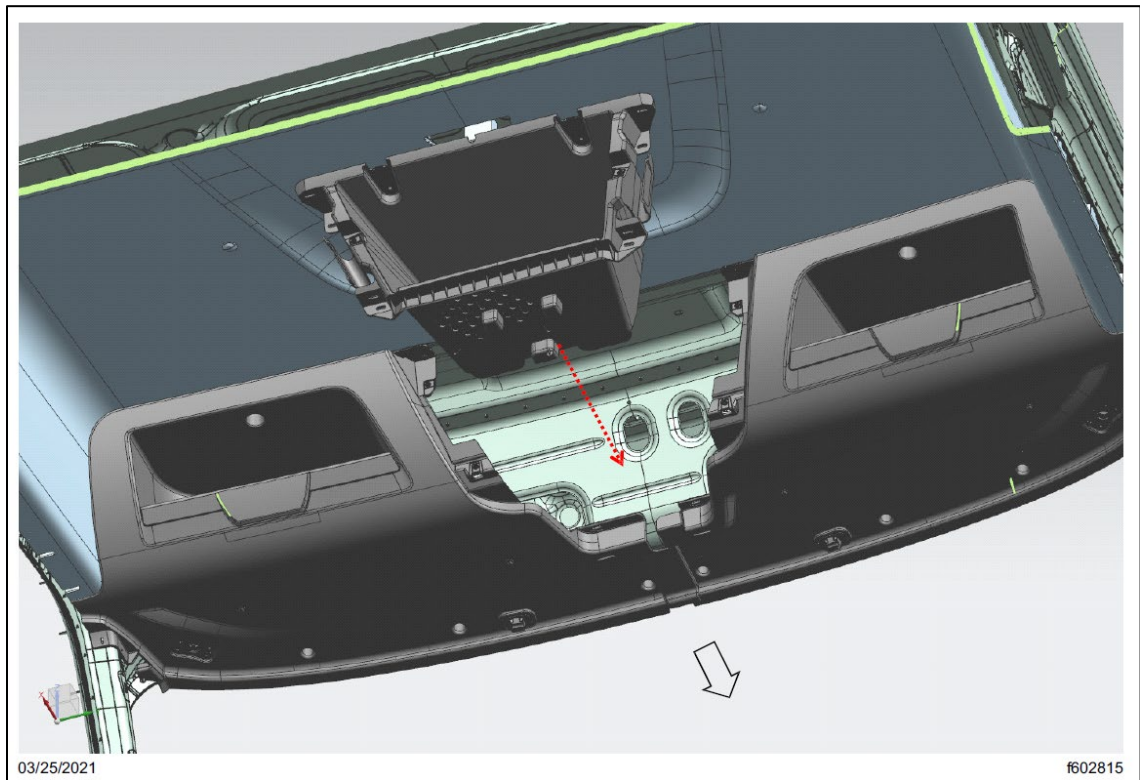

Fig. 26, Snap the Center Storage Bin into Position
- 7.1. Snap the center storage bin into position between the left-hand (LH) side and RH side overhead storage assemblies. See Fig. 26.